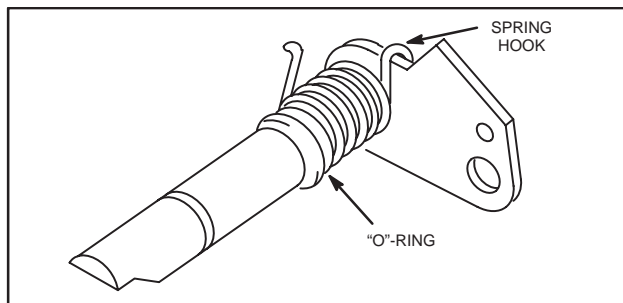

Fig. 164 – ASSEMBLE SPRING
1. Install return spring on shaft and lever assembly as shown in Fig. 164.